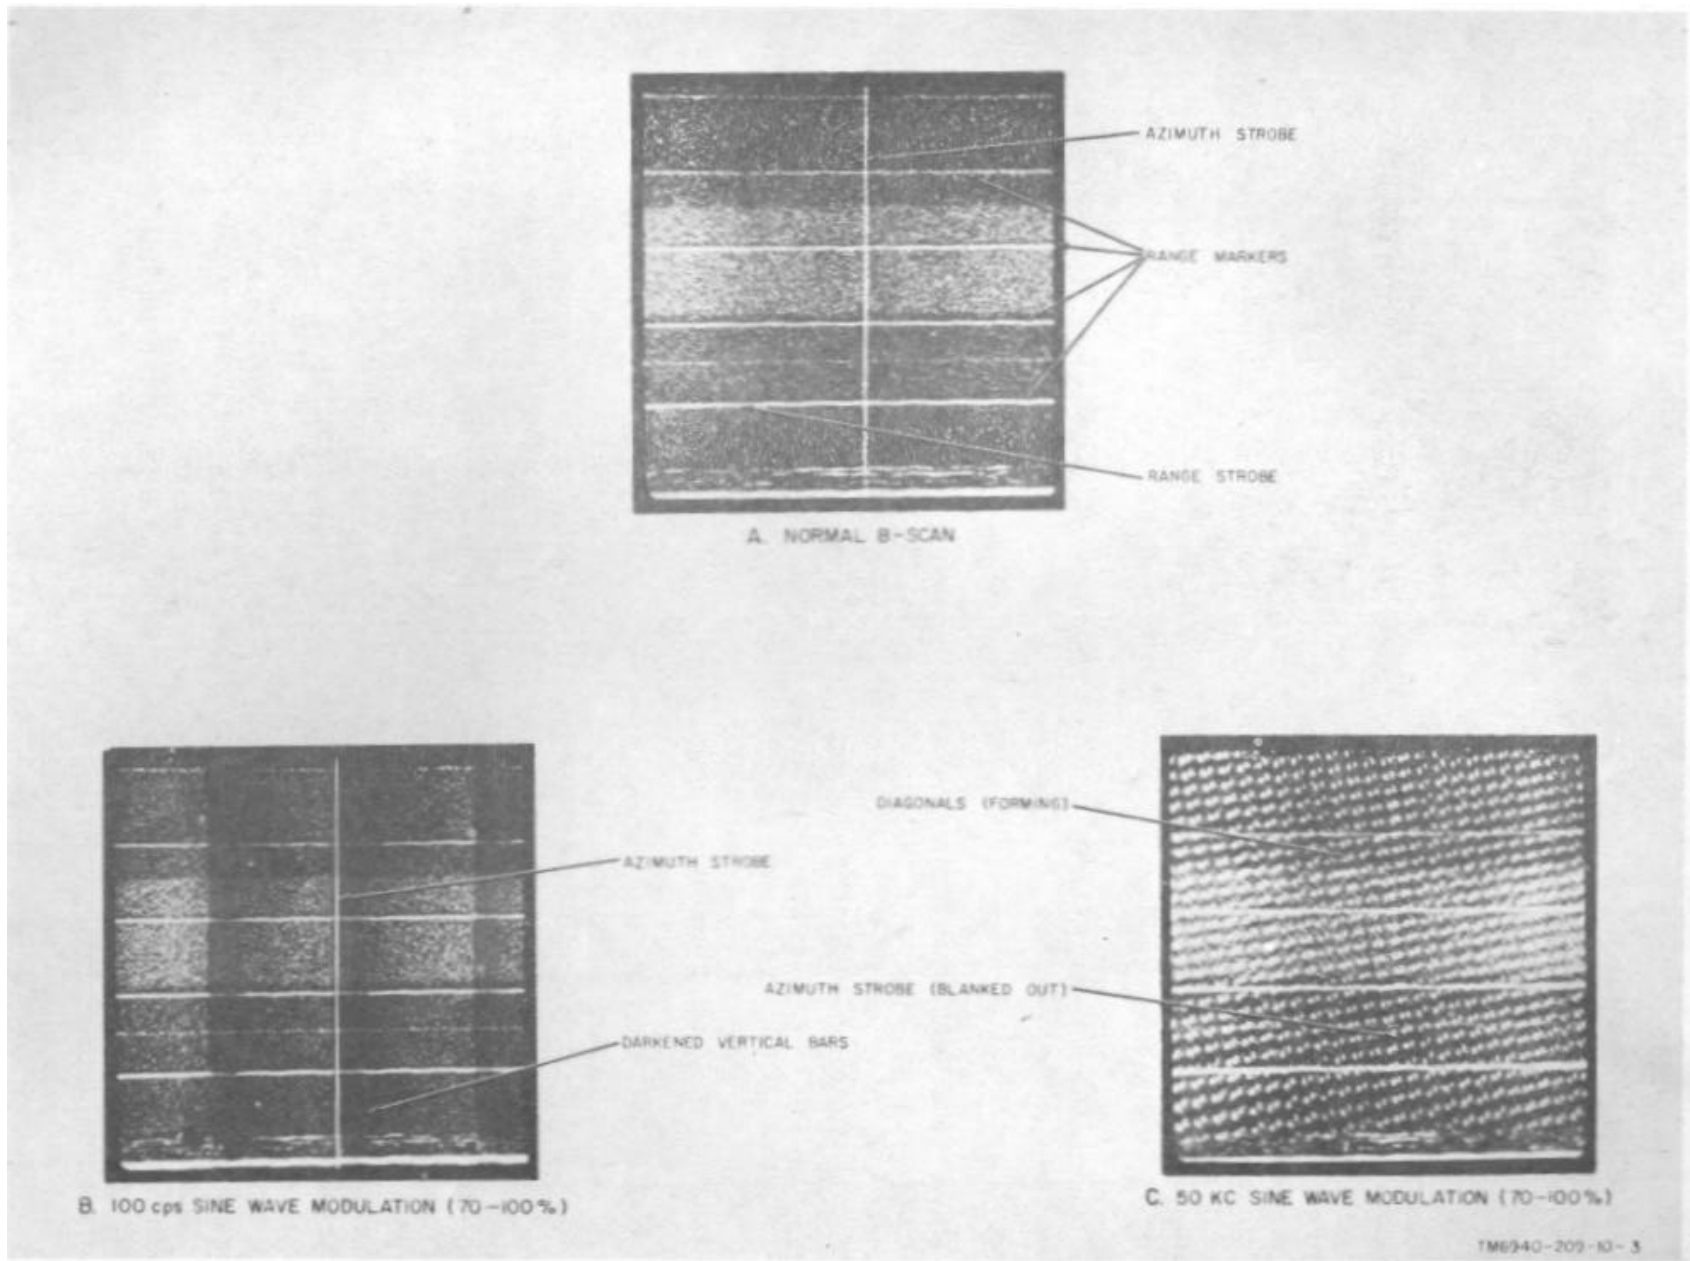
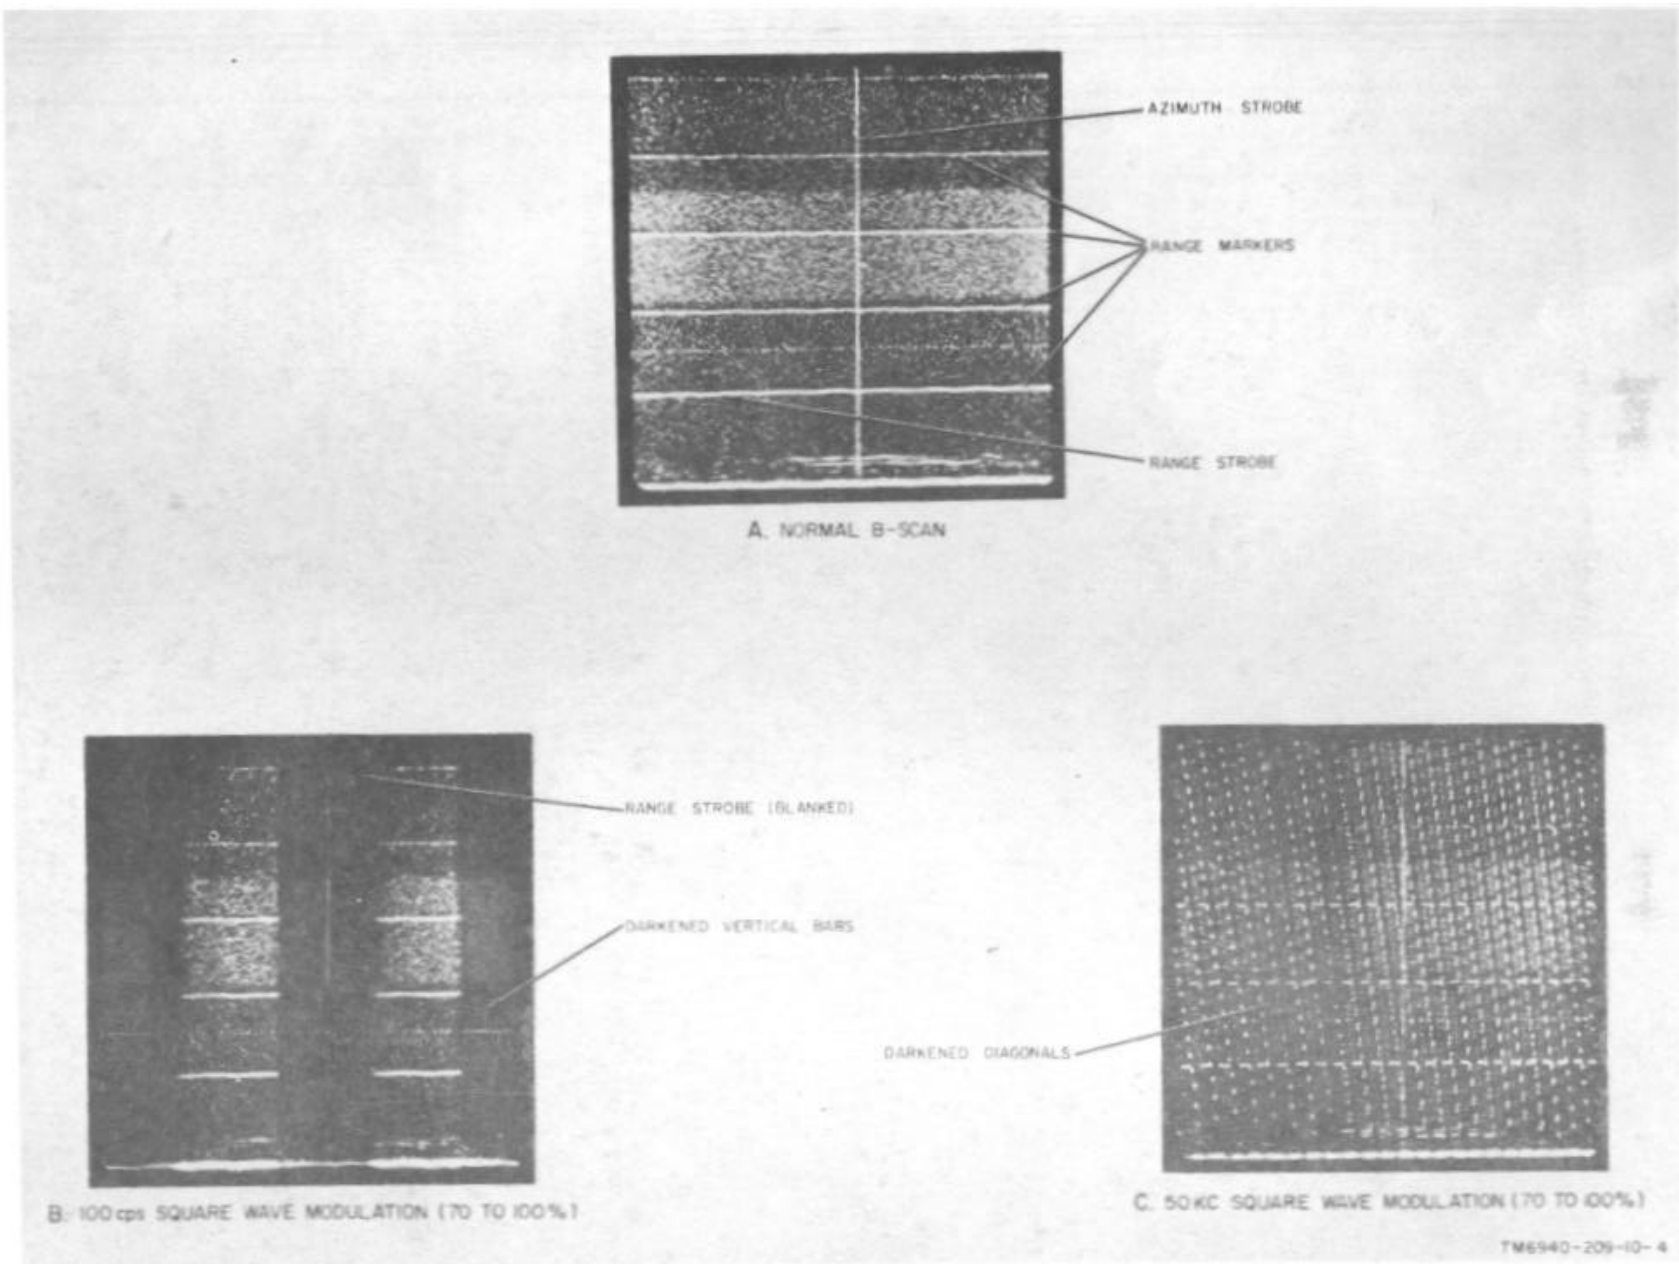

Figure 3. Normal B-scan and jamming by sine-wave modulation.
Figure 4. Normal B-scan and jamming by square-wave modulation.
characteristics pattern or, the 8 B-scope of the radar set. Typical jamming patterns are shown in figures 3 through 8. The patterns produced by applying a jamming signal to a radar set will vary slightly, depending on the age of the radar set and the condition of its signal blocking, or spurious signal rejection circuits.
*b.* The normal B-scan presentation contains rangemarkers and azimuth strobes (A, fig. 3 through 8). If the radar trainer overdrives or saturates a radar set, the display will appear mottled, and rangemarkers, range strobes, and azimuth strobes will be blanked out. Move the radar trainer antenna further away from the radar set antenna or point the radar trainer antenna in a direction opposite to that of the radar set antenna.
a. *Sine Wave* (fig. 3). sine-wave modulation of an rf carrier will produce, in addition to the carrier frequency, rf signals above and below the carrier frequency and separated from the carrier frequency by the frequency of the modulating signal. For example, if a 100megacycle (mc) carrier is modulated by a 1-mc sine wave, the transmitter output will consist principally of three frequencies: 100 mc (the carrier), 99 mc (which is 1 mc below the carrier), and 101 mc (1 mc above the carrier). In this example, the sine-wave modulated signal covers a bandwidth of 2 mc. When modulation is accomplished by more than one modulating signal, additional space in the frequency spectrum will be occupied by the transmitted signal. This bandwidth coverage is desirable in a jamming signal. As the modulating signal in a jammer becomes more complex, the frequency coverage of the jamming signal increases, thus increasing the jamming effectiveness; however, the original signal power is dispersed over a wide portion of the frequency spectrum, resulting in a decrease of the jamming signal power. Because of this reduction of the jamming signal power, there is a limit to the bandwidth that the signal can effectively cover. Beyond this limit, a bandwidth increase and a corresponding power decrease will result in a decrease of the jamming effectiveness. Aside from the strength of the jamming signal and the bandwidth coverage, there is another characteristic of the sine-wave modulated jamming to be considered. This characteristic is synchronization. The modulation may be considered to be synchronized or nonsynchronized as follows:
- (1) Synchronized. Synchronized jamming refers to signals that are modulated at an exact multiple of the pulse-repetition rate of the radar set against which the jamming is being used. Thus, if the radar set is operating at a pulse-repetition rate of 1,000 cycles per second (a pulse-repetition frequency (prf) of 1,000) and the radar trainer is modulated at four times that, or 4,000 cps, the jamming is synchronized.
- (2) Nonsynchronized. Jamming signals not modulated at an exact whole number multiple of the radar set pulse-repetition frequency are called nonsynchronized. There is also an intermediate condition known as semisynchronized where the jamming signal at times falls into synchronization with the radar set. Modulation of a sine-wave signal by the radar trainer is variable from 0 to 100 percent. Frequency can be varied from 15 cps through 15 kc. Percentage modulation can be varied at fixed frequency settings of 50 and 100 kc. If sine-wave jamming is used at low frequency (100 cps), darkened vertical bars will appear on the scope of the radar set. If 50kc jamming is used, dotted diagonal bars will appear together with faint vertical lines and the azimuth strobe will be blanked out. The angle of the diagonal bars varies with the degree of frequency synchronism between the jamming signal and the vertical sweep of the display.
b. *Square-Wave Modulation Jamming* (fig. 4). Square-wave modulation produces a jamming signal that occupies a wider portion of the frequency spectrum than the sine-wave modulated signal. Theoretically, a square wave is made up of a fundamental sine wave and an infinite number of harmonics of that sine-wave frequency. The signal resulting from square-wave modulation will be similar to one which would result from modulating with a very complex combination of sine waves. Square-wave modulation produces a very effective jamming signal; however, high transmission power levels are required to compensate for frequency dispersion and resulting power dispersion. The square-wave modulation may be produced by a continuously cycling square wave or by a pulse repeated at either a set or varying repetition rate. Whether continuous square wave or pulse, the
square-wave modulation may be made synchronized, nonsynchronized, or semisynchronized in the same manner as the sine-wave modulation. The square-wave jamming signals from the radar trainer are amplitude modulated and variable in frequency from 15 cps through 15 kc. Fixed-frequency settings are available at 50 and 100 kc. If square-wave jamming is used, the presentation will be similar to that caused by sine-wave jamming however, the vertical and diagonal darkened bars (100 cps and 50 kc respectively) will be more clearly defined. Faint vertical lines should begin to appear at 50 kc. The rangemarkers and strobes are almost blanked out and 100 cps and 50 kc (B, fig. 4).